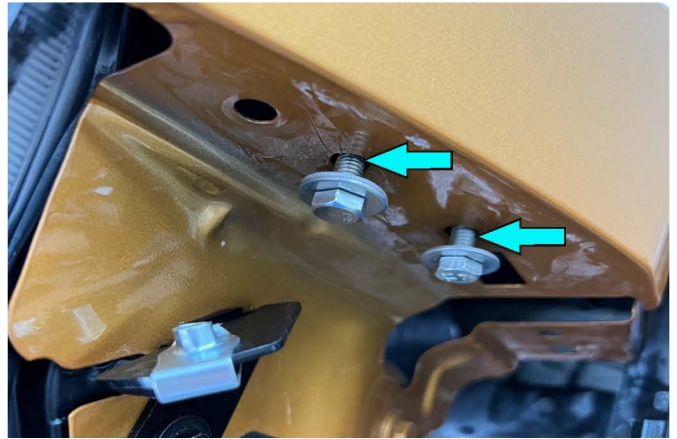

Fig.27
27. Loosen bolts M6x20 with washers 6 (item C, I) into insert nuts M6 with 2 nuts (item 7) (fig.27).